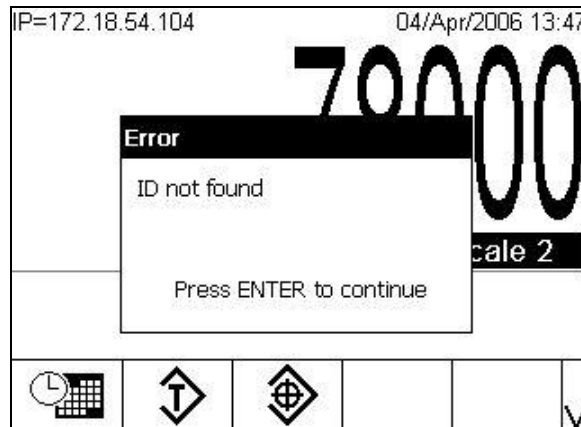

Figure C-14: 'Tare ID Not Found' Error Message
- If an invalid ID number is entered, the message in Figure C-14 displays.